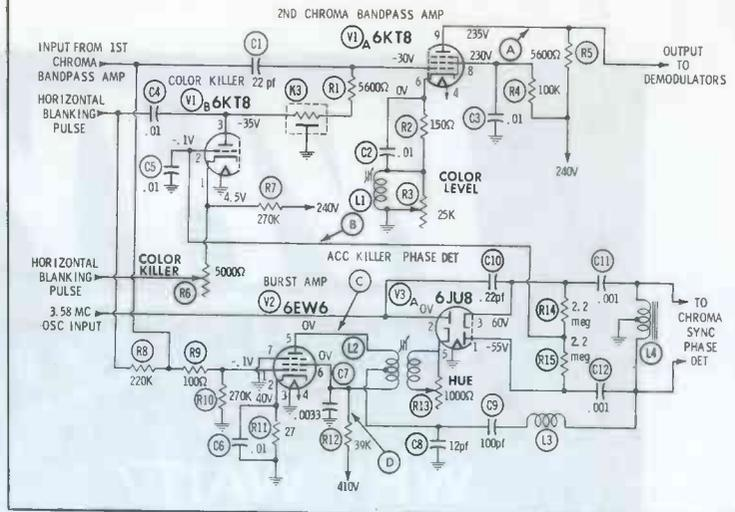

Fig. 8. Missing burst pulse caused killer to cut off bandpass.
Step 3: Trace signal through bandpass amplifier stages. *Result:* Waveform at the first chroma bandpass amplifier grid and plate is normal. At the grid of the second bandpass amplifier signal is normal but plate signal is missing (point A, Fig. 8).